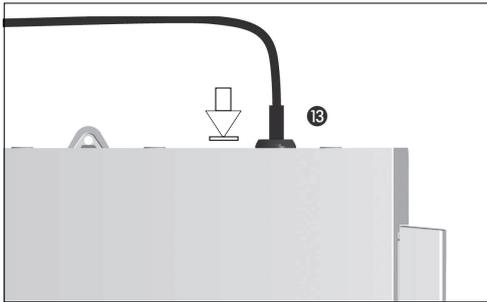

fig. 2
D. Connect the pedal cable to the output provided on the rear panel, guiding the connector and plug by means of the index pin on the connector **fig. 2**.